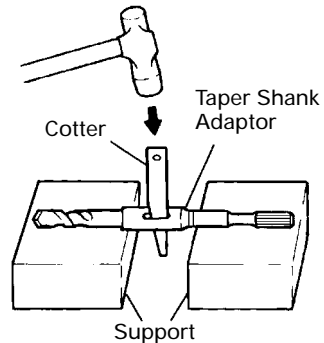

Fig. 12
- (1) Install drill bit with taper shank in the taper shank adaptor.
- (2) Turn the power on and drill a base hole.
- (3) After cleaning out dust with a syringe, attach the plug to the anchor tip and drive in the anchor with a manual hammer.
- (4) To remove the drill bit with taper shank, insert a cotter into the slot of the taper shank adaptor, place supports under the rotary hammer and tap the cotter with a manual hammer. (Fig. 12)